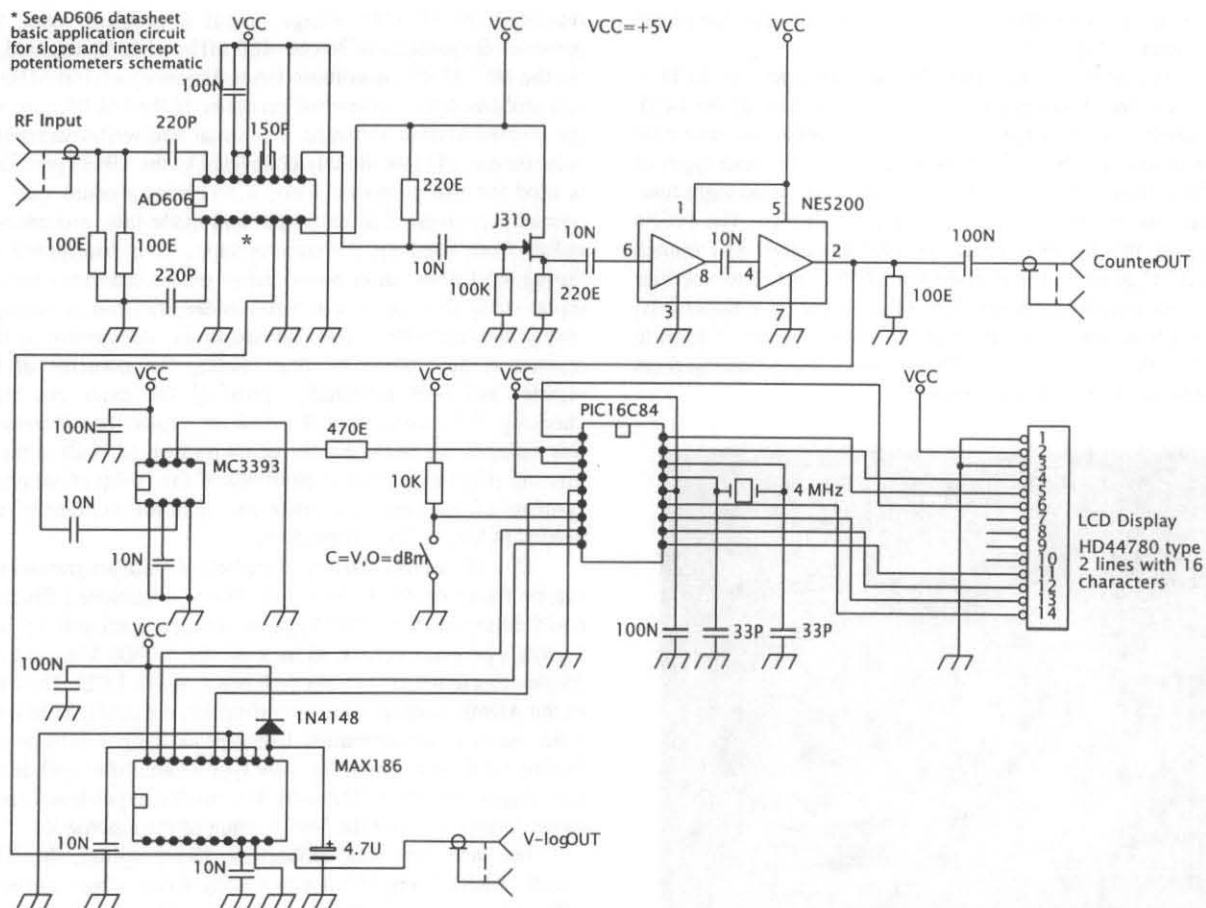

Figure 4 Schematic of the microwattmeter. Note: "E" designates "Ohms", "N" means "nano-".
This all sounds terribly complicated, but programming examples can be found on the Internet (2). The arrangement I finally settled on could determine the AD606 limiter frequency reliably up to 110 MHz. I wrote a program version to measure the AD606 Vlog-out in Volts and display this together with the frequency on the LCD. The limiter output of the AD606 needed some amplification, especially at low input levels. After much experimentation, I settled on using a J310 as buffer and a Philips NE5200 as amplifier. Any type of amplifier will do as long as it can trigger the MC3393P over the needed input-level and frequency range. Figure 4 shows the final version of the schematic.